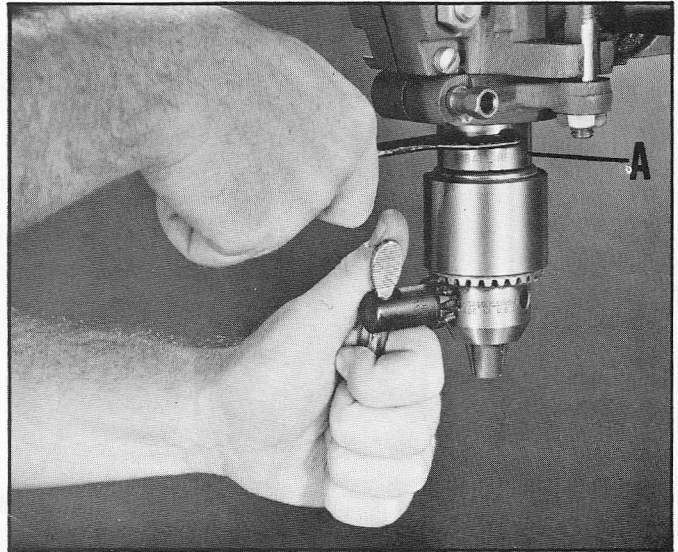

Fig. 7.
When removing either the chuck or the spindle adapters, we recommend the use of the Cat. No. 15-838 spanner wrench which is supplied with your drill press. Turn the locking collar of the adapter or chuck with the spanner wrench while keeping the spindle from turning by either holding V-belt or holding the chuck with the chuck key in one of the pilot holes in the nose of the chuck, as shown in Fig. 7.
When attaching adapters to the spindle, it is very important to wipe clean both the spindle taper and taper hole in adapter. Then place the adapter on the spindle and tighten the locking collar (A) Fig. 7. If in checking the spindle for accuracy, there should be a run out, we suggest that the adapter be removed and turned perhaps one quarter or one-half turn and replaced. This may reduce or eliminate the run out, it may also increase it, in which case, remove the adapter and turn it some more on the spindle.